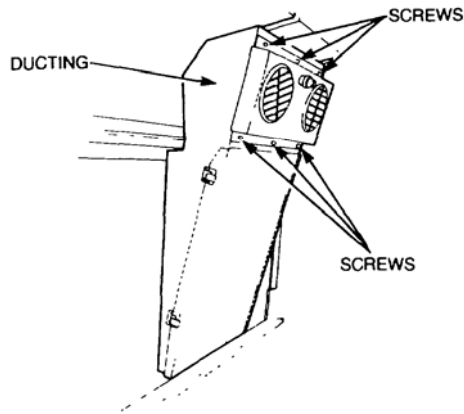

Figure 9 Forced Air Ventilator Removal
- c. Remove the six screws securing the fascia panel to the ventilation ducting (refer Figure 9).